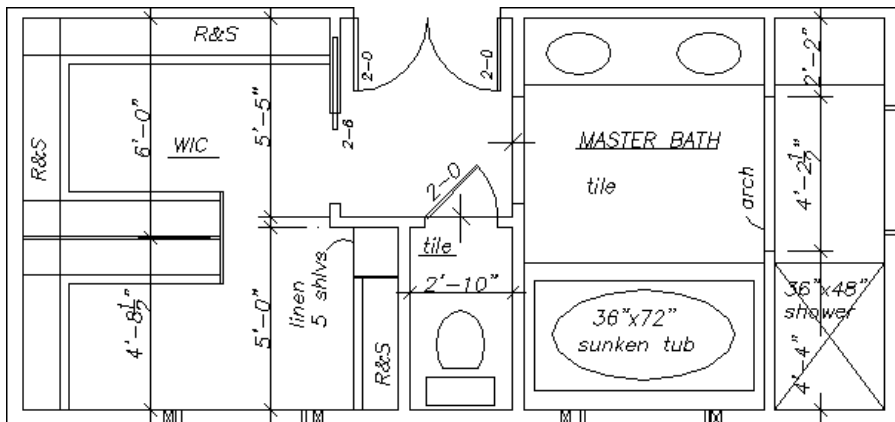

Figure 13-6: The master-bathroom plan drawing with added single-line text.
5. Save your drawing. It should look like Figure 13-6.